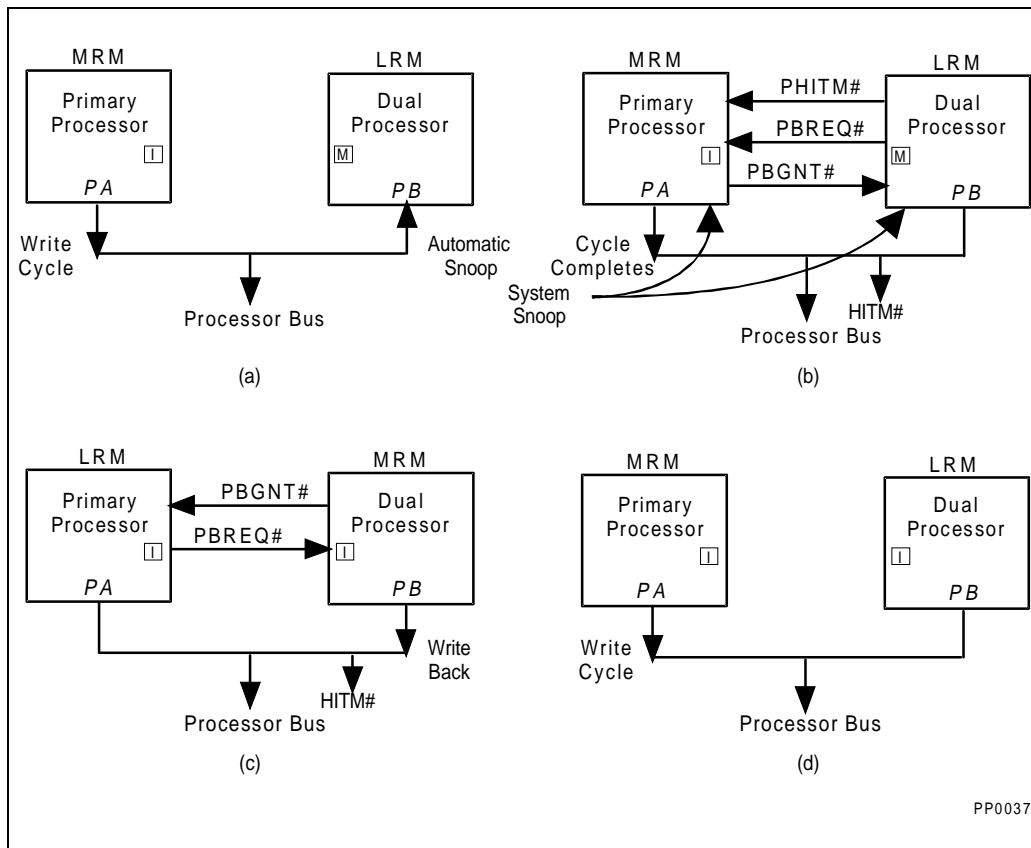

Figure 20-7. DP Cache Consistency for External Snoops
In diagram (a) of Figure 20-7, processor *PA* starts a write cycle on the bus to a line that is in the M state in processor *PB*. Processor *PB* notifies *PA* that the write transaction has hit an M state line in diagram (B) of Figure 20-7 by asserting the PHITM# signal. The MRM (*PA*) completes the write cycle on the bus as if the LRM processor did not exist.
In this example, an external snoop happens just as the write cycle completes on the bus, but before *PB* has a chance to write the modified data back to the system memory. Diagram (b) of Figure 20-7 shows *PB* asserting the HITM# signal, informing the system that the snoop address is cached in the dual processing pair and is in the modified state. The external snoop in this example is hitting the same line that caused the PHITM# signal to be asserted.
Diagram (c) of Figure 20-7 shows that an arbitration exchange has occurred on the bus, and *PB* is now the MRM. Processor *PB* writes back the M state line, and it will appear to the system as if a single processor was completing a snoop transaction.
Finally, diagram (d) of Figure 20-7 shows processor *PA* re-running the original write cycle after *PB* has granted the bus back to *PA*.